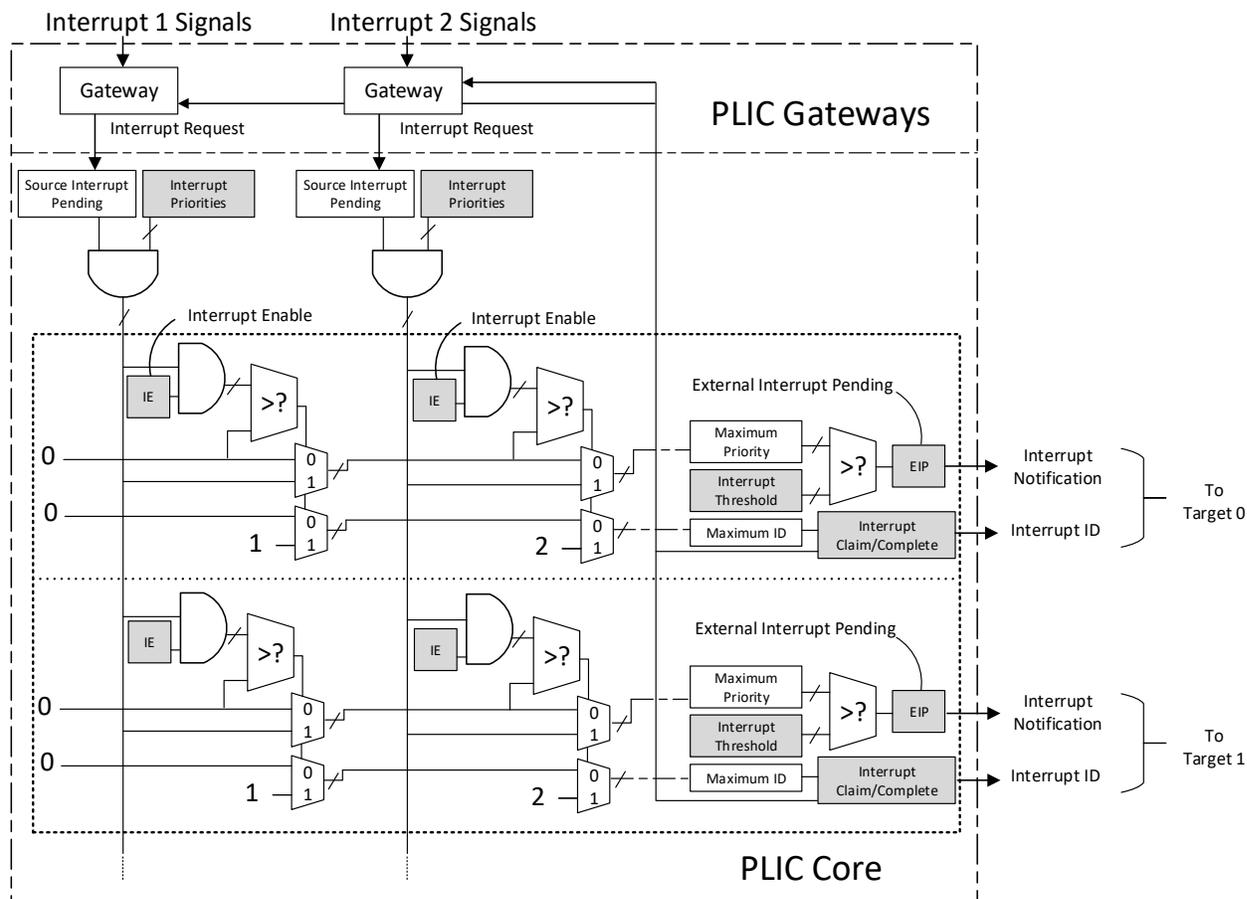

Figure 2.23. PLIC Operation Parameter Block Diagram
Figure 2.23 shows the block diagram of the PLIC operation parameter. An example of how it works: interrupt input 1 gets asserted, it goes through the Gateway and sets the Interrupt Pending bit of the Source. If its Interrupt Enable (IE) is set, the priority value can be passed and compared to other inputs all the way through the chain. The interrupt ID is similarly forwarded. So, if Max Priority is larger than the threshold, External Interrupt Pending (EIP) can be asserted and sent to the processor. Meanwhile, the Gateway blocks subsequent interrupts from being forwarded until the current interrupt has been completed. Target 0 goes to the Machine mode external interrupt, and Target 1 goes to the Supervisor mode external interrupt.